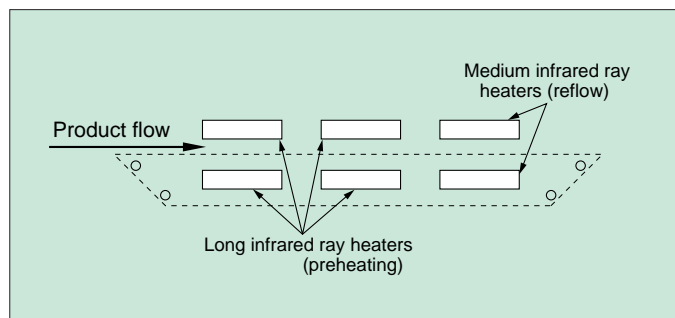
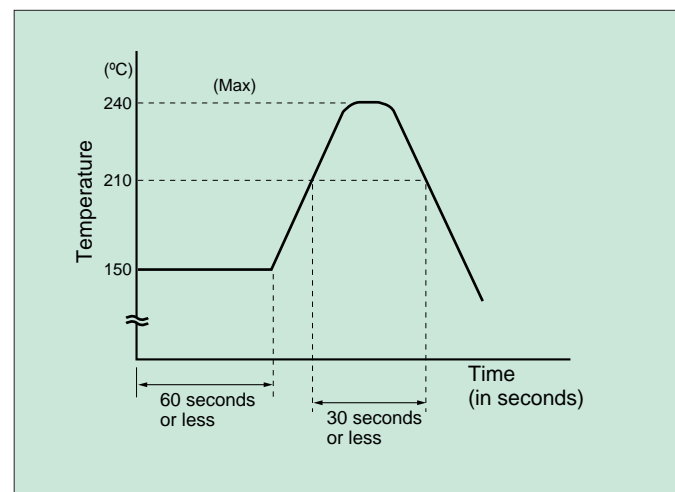

Figure 2
Figure 3
- (1) Top and bottom heating with long or medium infrared rays is recommended. (Figure 2)
- (2) Complete the infrared ray reflow process within 30 seconds at a package surface temperature between 210°C and 240°C.
- (3) Refer to Figure 3 or an example of the recommended temperature profile.
- (4) Near infrared ray reflow soldering produces thermal stress equivalent to that of dip soldering, so take care when using this method.